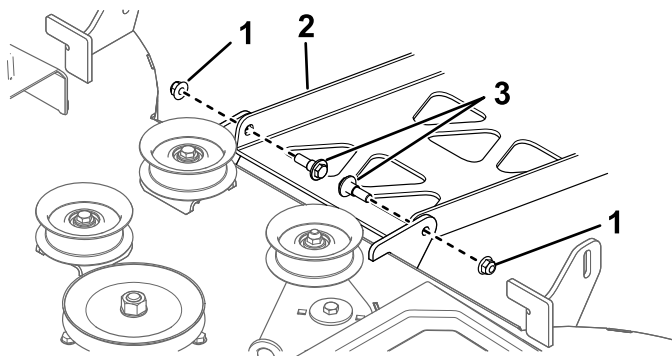

Figure 63
- D. Secure the rear of the deck to the pivot pan using the shoulder bolts and nuts removed previously (reference Figure 63).